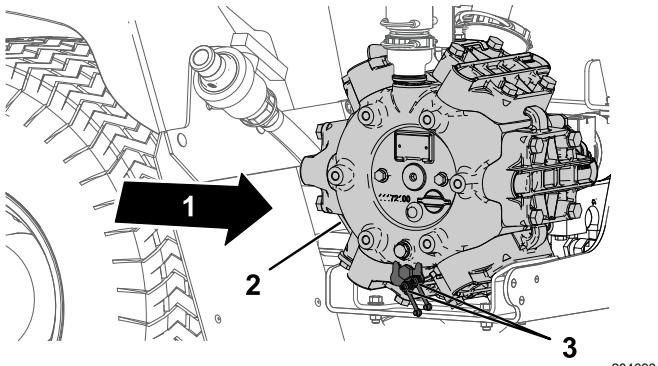

Figure 104
1. Wipe the 2 remote grease fitting clean (Figure 104).
2. Pump grease into the remote grease fitting (Figure 104).